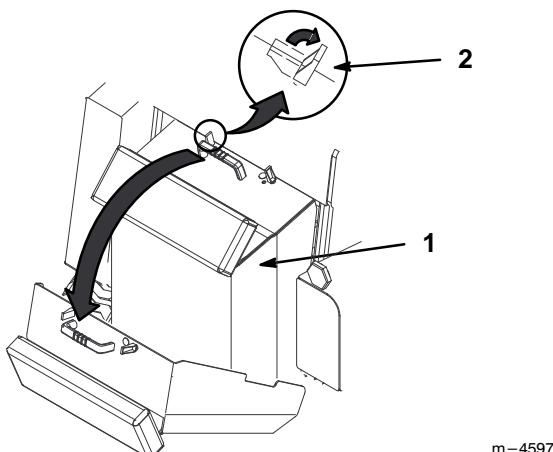

Figure 21
2. Release the two locking tabs on top of the rear access cover (Fig. 21).
3. Grasping the handle, pull the cover up and back to swing it open (Fig. 21).